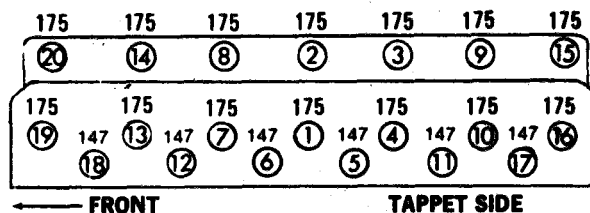

Figure 3-17. Cylinder Head Nut Tightening Sequence, and Torque Values
c. Install water outlet cover (47) and gasket (44) on cylinder head and secure with bolts (48) and lock-washers (49).
e. Place cylinder head assembly (1) on block. Be careful not to damage contact surfaces or cylinder head studs.
f. Install cylinder head nuts (20 and 21) and washers (18 and 19). Tighten evenly, working from center of head outward. Refer to figure 3-17 for tightening sequence, torque, and procedure for tightening cylinder head to cylinder block. Tighten all nuts first to 75 foot-pounds torque in sequence indicated, then 125 foot-pounds torque and then to final torque value shown in figure 3-17.